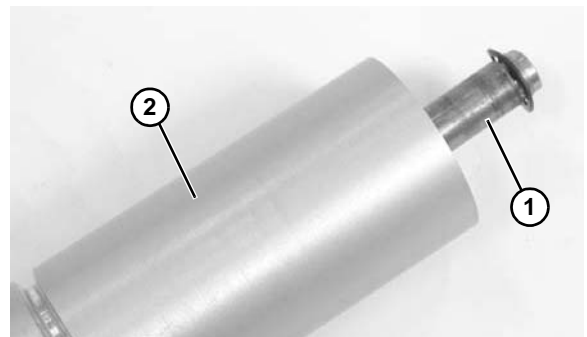

Figure 41
11. Slide the shaft assembly (Figure 41, item 1) out of the pulley (Figure 41, item 2).